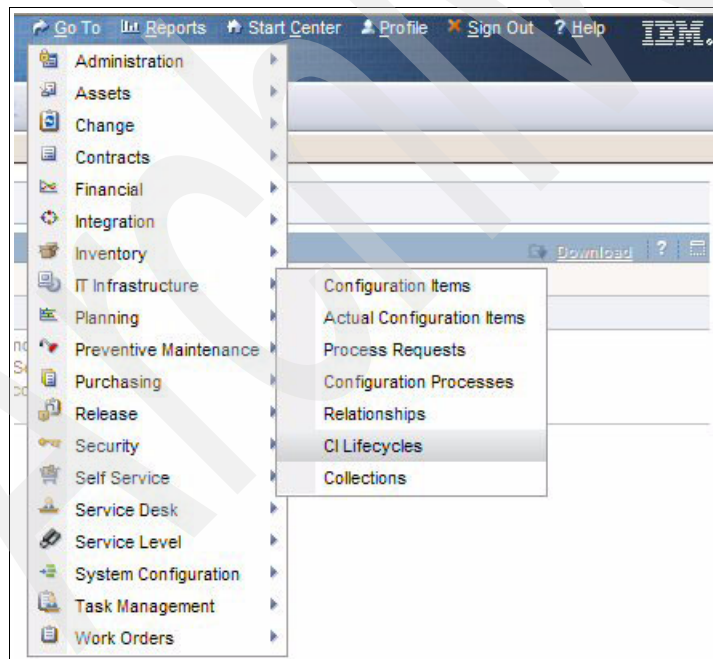

Figure 8-82 CI Lifecycle menu
1. Select **Go To** → **IT infrastructure** → **CI Lifecycle** (Figure 8-82).